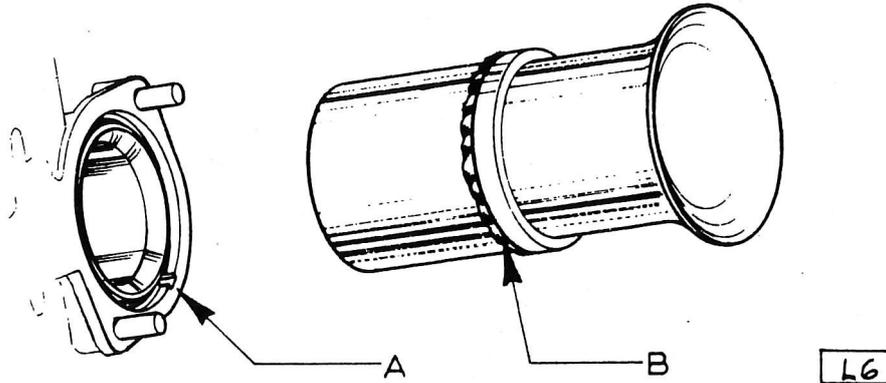

Fig.23. SEALING CARBURETTER AIR TRUMPETS
2. Using 'Hylomar', fill the recess in the carburetter air inlets as shown at 'A' in Fig. 23, and smear 'Hylomar' around the air trumpets as shown at 'B'.